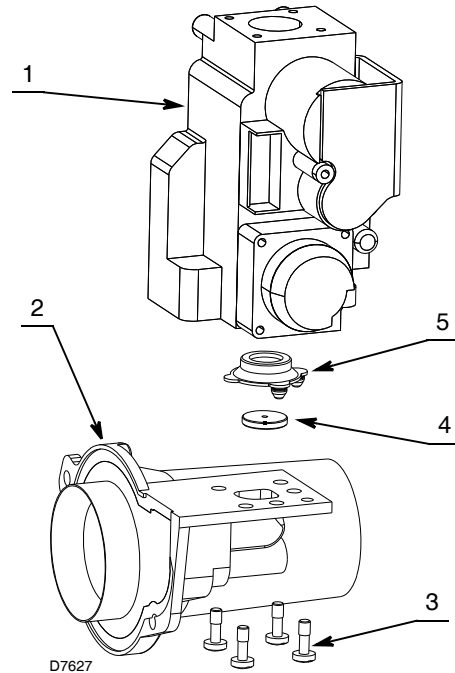

Fig. 12
- Disassemble the gas valve 1)(Fig. 12) from the venturi unit 2), removing the screws 3).